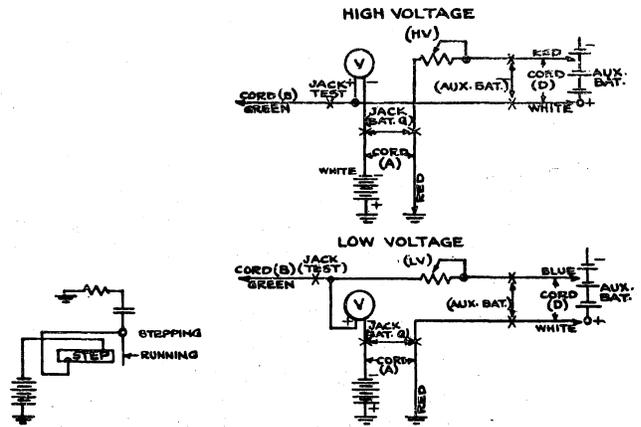

Fig. 2
4.2 Fig. 2 illustrates the ground application of the test set.